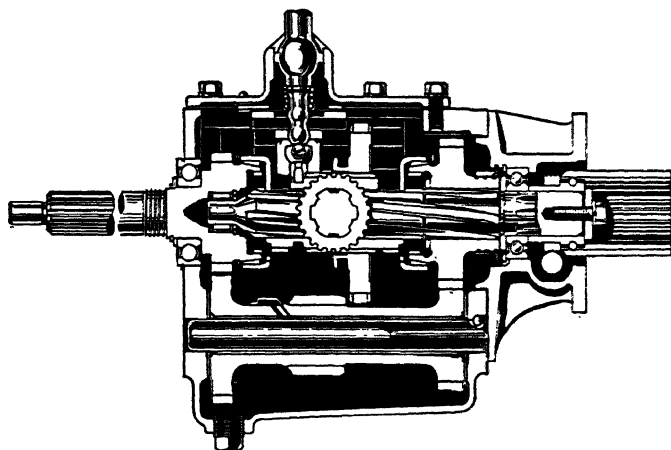

Fig. 1. Pontiac 1938 Transmission
**Synchronizing Drums (1938).** The 1938 synchronizing drum assemblies, Fig. 1, are the same size on the higher gear end as on the